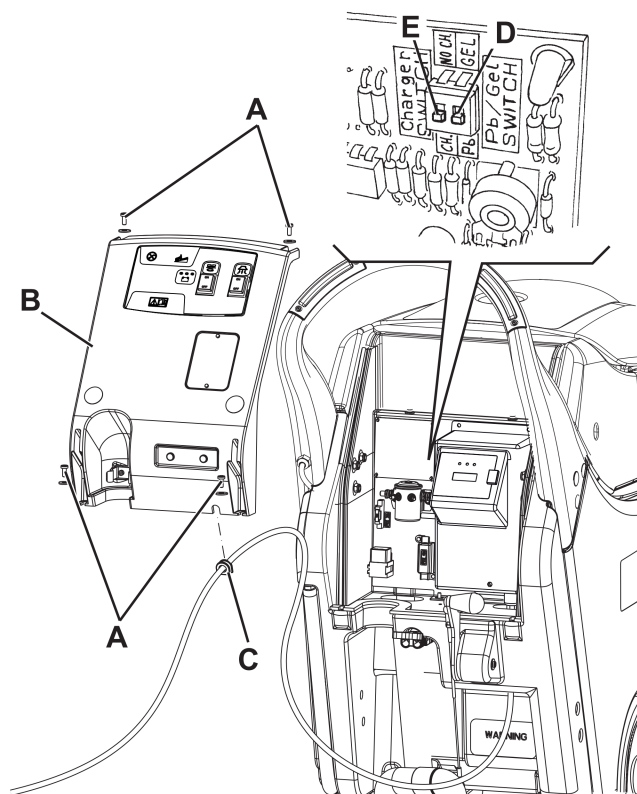

Figure 1
1. Check that the battery connector (8) is disconnected. The machine factory setting is for GEL batteries. If this setting corresponds to the type of batteries installed, go to step 7. Otherwise, perform steps 2, 3 and 4 too.
2. Move aside the recovery water drain hose (11).
3. Remove the battery charger cable, if equipped, from the cable holder (5).
4. Remove the screws (A, Fig. 1) and carefully move aside the panel (B) by disengaging the grommet (C) from its housing on the panel (B).
5. Turn the microswitch (D) to WET position.